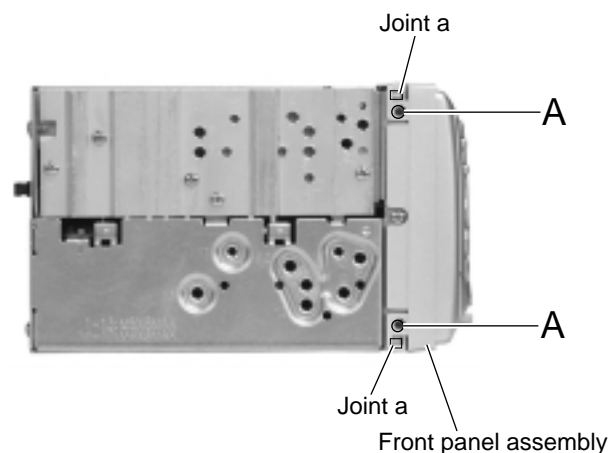

Fig.1
■ Removing the front panel assembly (See Fig.1 ~ 3)